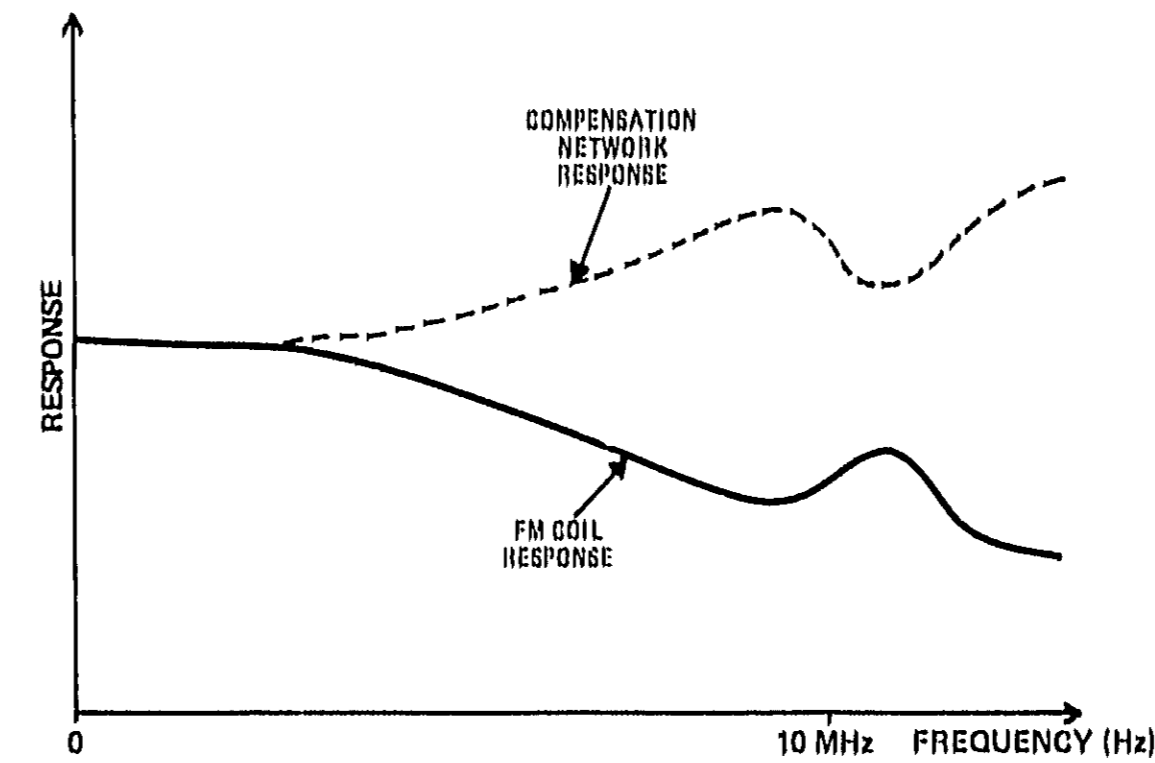

Figure 8-36. Plot of FM Coil Response Versus Modulation Frequency
The output of the filter network is limited to about  $\pm 3$  Vdc with a network made up of VR1, VR2, R14, R15, CR3, and CR4. Q5A and Q5B are connected as emitter followers and buffer the output of the filter network to video amplifier U10. Analog switch U11 is always set to switch position zero. Frequency response shaping to compensate for the roll-off versus frequency of the FM coil is produced by the network made up of C11, C12, C14, R21, R22, R23, R75, and L1 connected across pins 9 and 4 of U10. This network is actually in the emitter of the input differential amplifier of U10 producing greater gain with decreasing impedance. Figure 8-36 shows the approximate response versus frequency of the YIG FM coil and the compensation network. Adjustments R19 (FM OFFSET), R75 (H1), and C14 (LO) adjust the shape of the compensation network response.